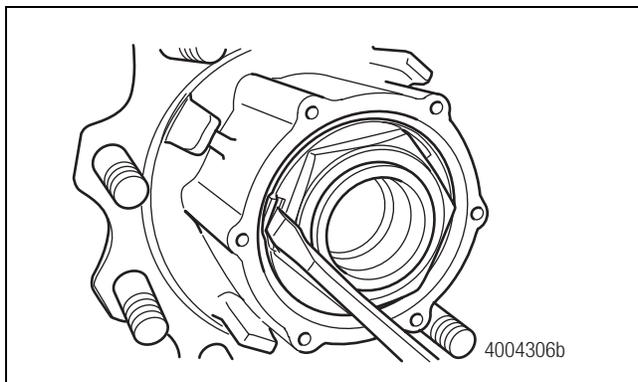

Figure 2
2. Use a screwdriver to release the stakes from the stake washer flange. Figure 2.